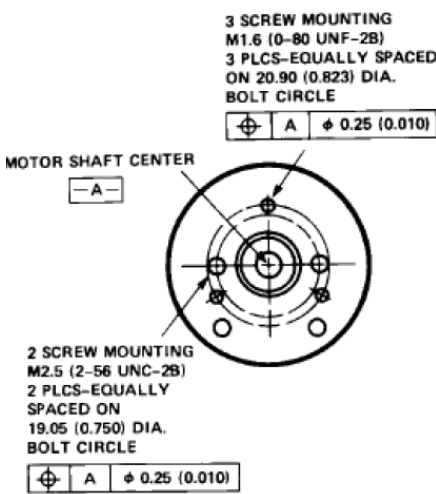
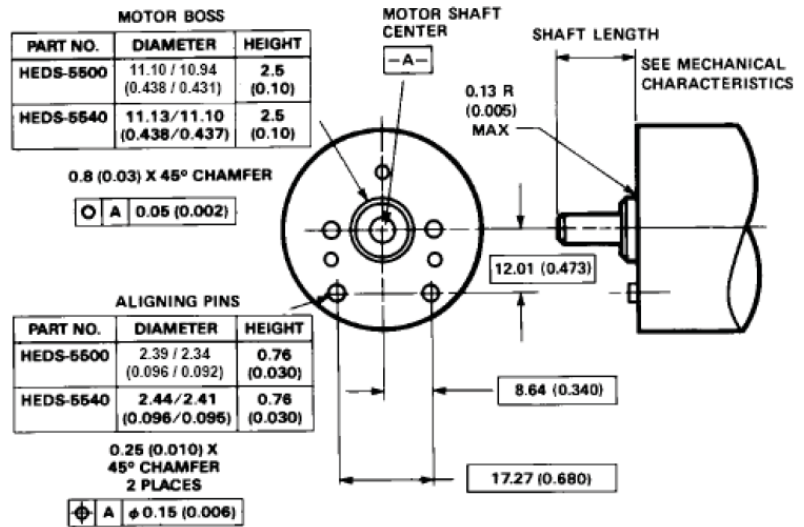
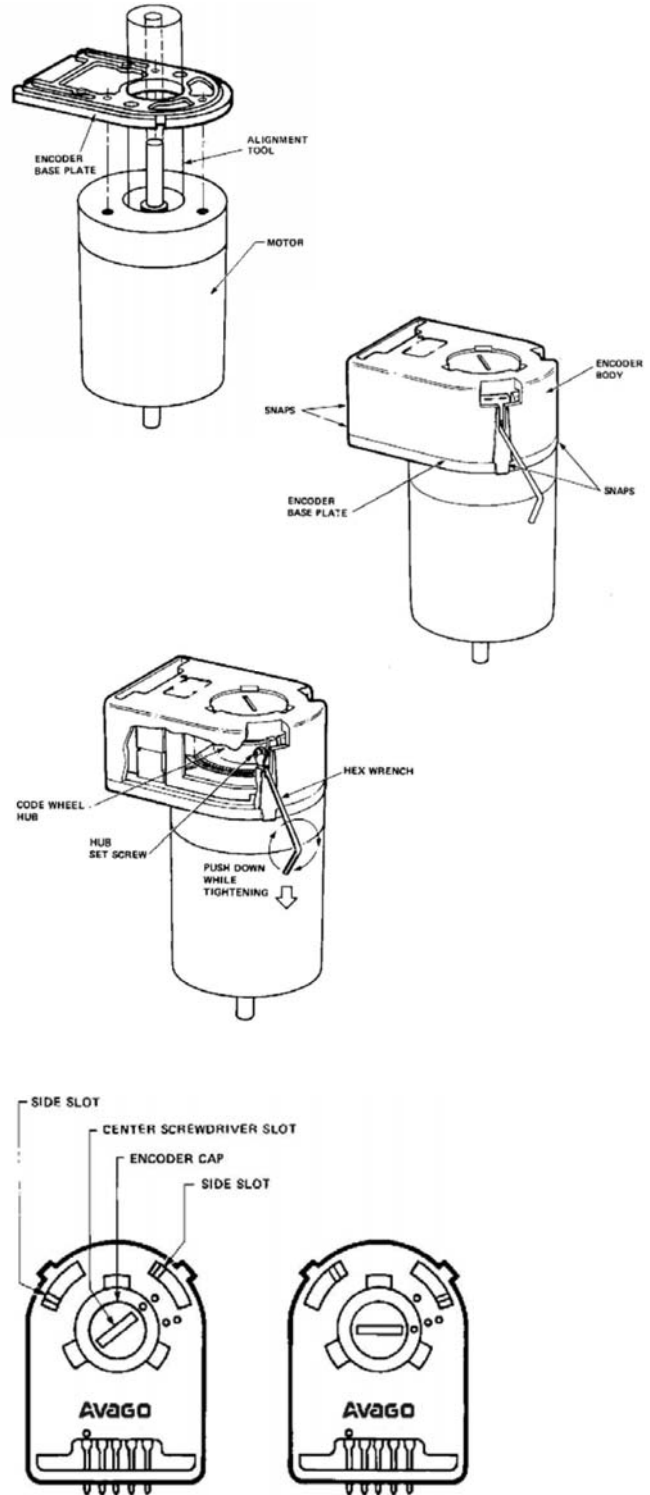

Figure 2. Mounting Holes.
Figure 3. Optional Mounting Aids.
Figure 4. Mounting with External Ears.
- The HEDS-5540 and 5640 must be aligned using the aligning pins as specified in Figure 3, or using the alignment tool as shown in "Encoder Mounting and Assembly". See also "Mounting Considerations."
The HEDS-5540 and 5640 three channel encoders and the HEDM Series high resolution encoders must be aligned using the aligning pins as specified in Figure 3, or using the HEDS-8910 Alignment Tool as shown in Encoder Mounting and Assembly.
additional mounting bosses, the encoder output errors will be within the maximums specified in the encoding characteristics section. The HEDS-5500 and 5540 can be mounted to a motor using either the two screw or three screw mounting option as shown in Figure 2. The optional aligning pins shown in Figure 3 can be used with either mounting option. The HEDS-5600, 5640, and HEDM-5600 have external mounting ears which may be used for mounting to larger motor base plates. Figure 4 shows the necessary mounting holes with optional aligning pins and motor boss.